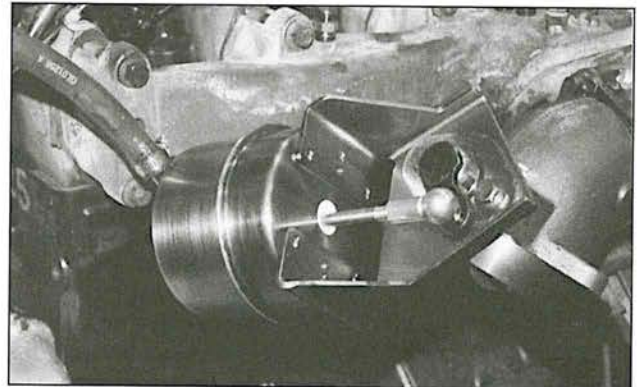

Fig. 9
- a. Attach one end of the 30" length of 1/4" I.D. hose to the fitting on the E Brake vacuum actuator (see Fig. 9). Use a hose clamp on this connection.